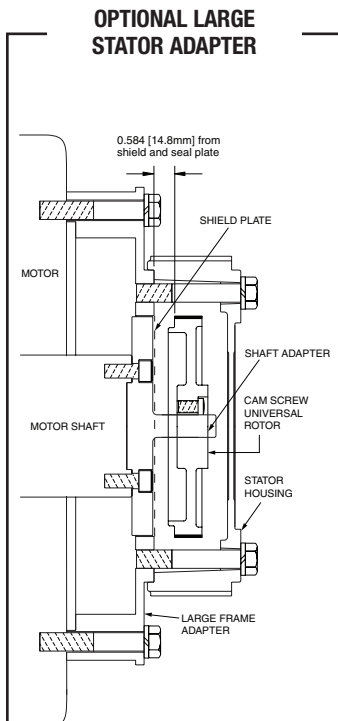

FIGURE 1
3. Using the supplied hardware, bolt the flange adapter in place (see Figure 1).